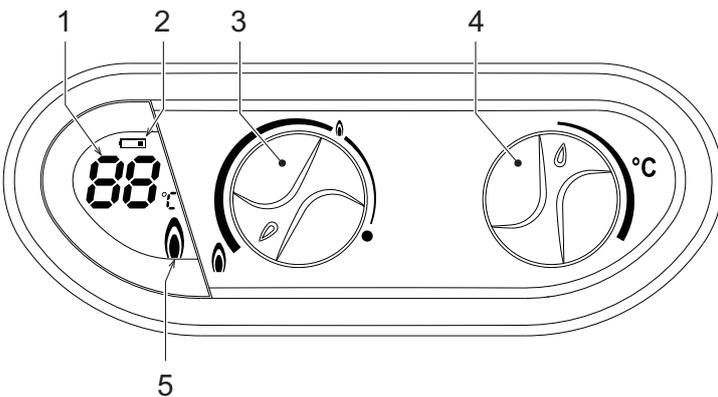

fig. 1 - Control panel
Panel - legend fig. 1
Use the power adjustment knob (ref. 3 - fig. 1) to select the water heater power, minimum or maximum and intermediate positions depending on the required water heating level. Turn the knob anticlockwise and the unit heats the water at maximum power. If the temperature is too high, for example in the summer, or when a reduced flow of not very hot water is necessary, turn the knob clockwise. This reduces the power (and gas consumption). In the position ● the unit is deactivated.